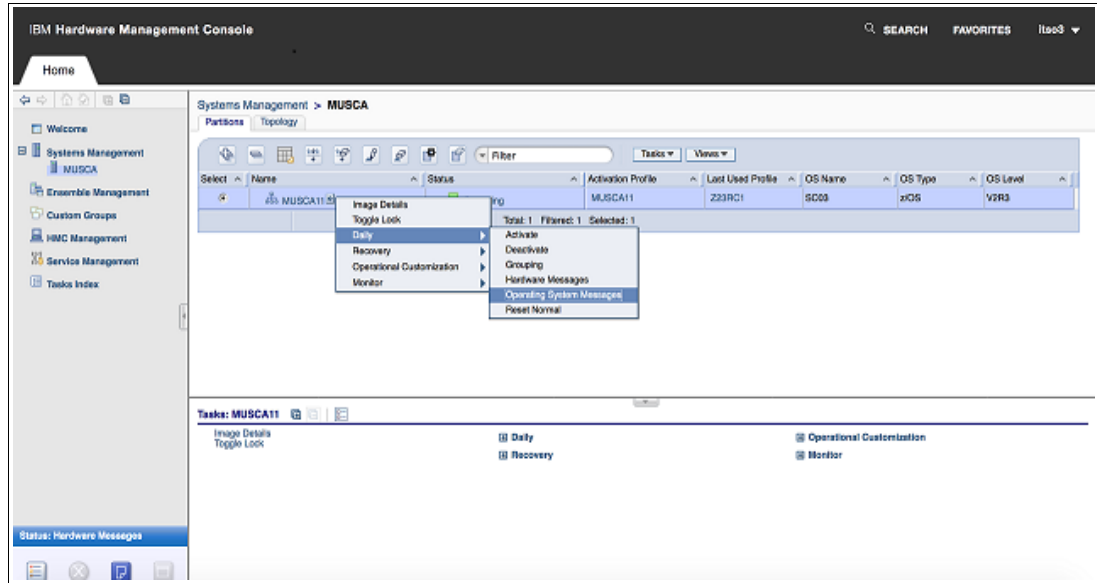

Figure 13-12 Operating System Messages
3. Select **Daily** → **Operating System Messages**, as shown in Figure 13-12.